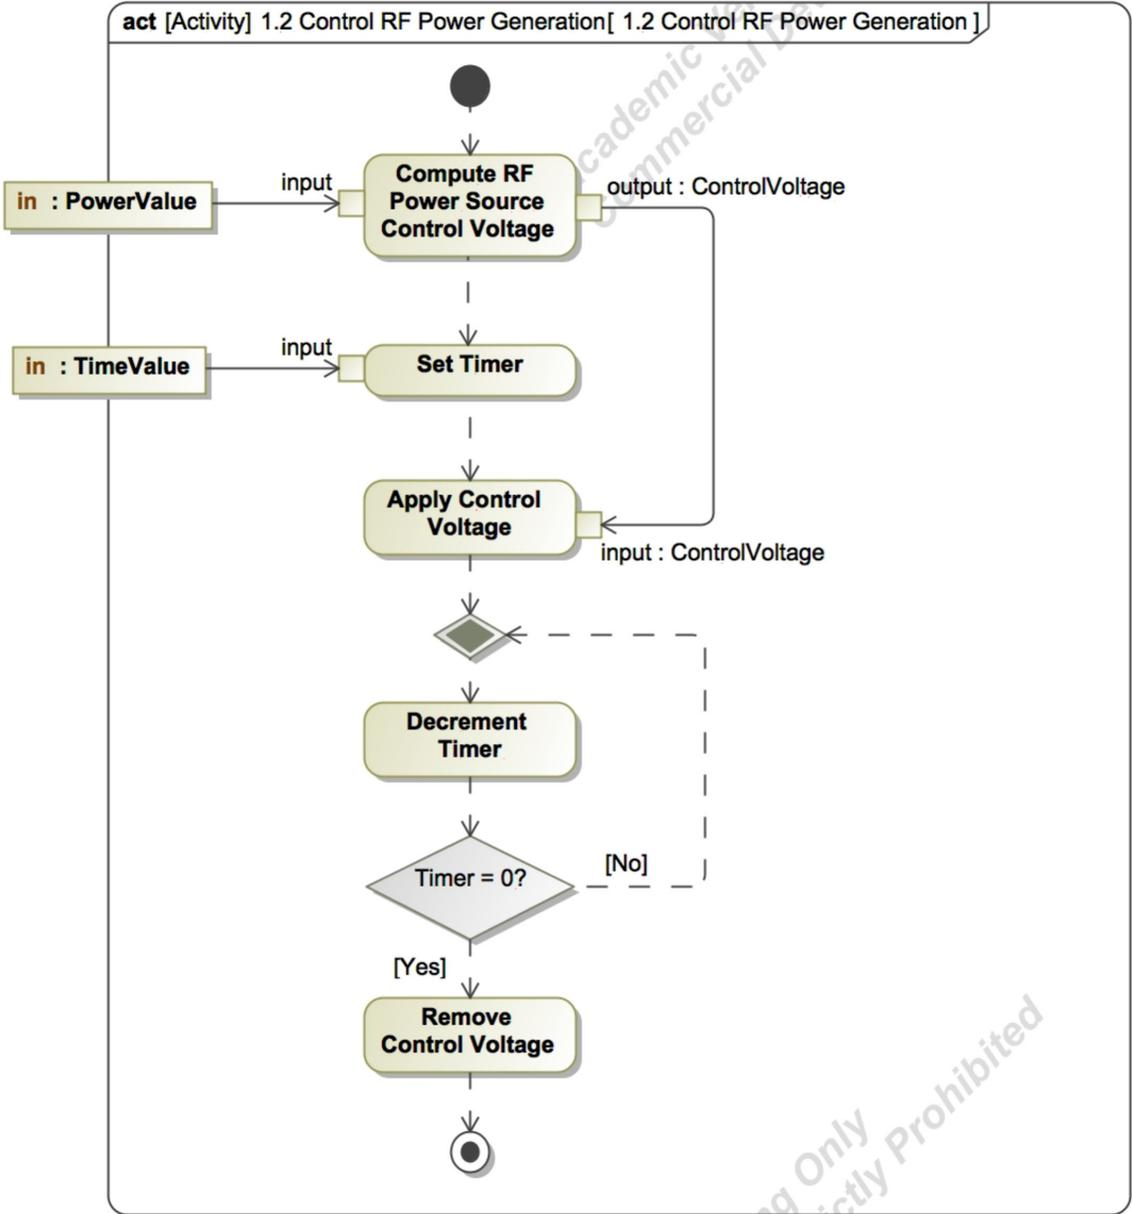

Figure 30. Activity Diagram Using Control Flow Between Action Pins
- D. Fig. 30 illustrates the other style of Object Flow in an AD using Pins. Some key points about this diagram include: